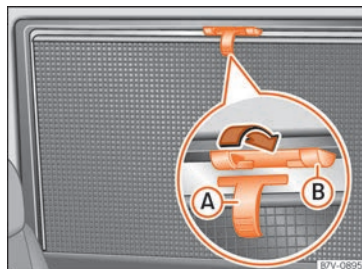

Fig. 147 On the rear right-hand window: sun blind.
- Pull the sun blind by the handle »» **Fig. 147** ① up to the top.
- Fastening the support rod to both anchorages in the correct spaces ②. Verify that the sun blind extended is hooked safely in the correct spaces ②.
- To put the sun blind away, unhook it at the top and lower by hand »» ①.